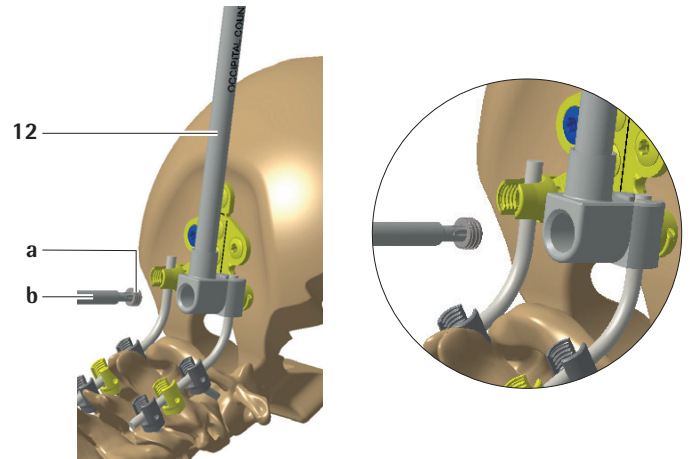

Fig. 12
- ▶ Start the set screw **a** in the threaded portion of the rod receptacles using the set screw starter **b** (SZ069R/SZ068R), see Fig. 12.